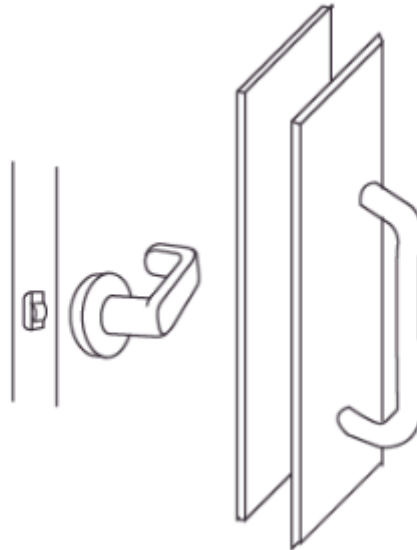

Figure 51: Examples of Accessible Hardware
- Where exterior doors swing open into a pedestrian area, incorporate safety guards that project a minimum of 300 mm beyond both sides of the open door (See Figure 51)